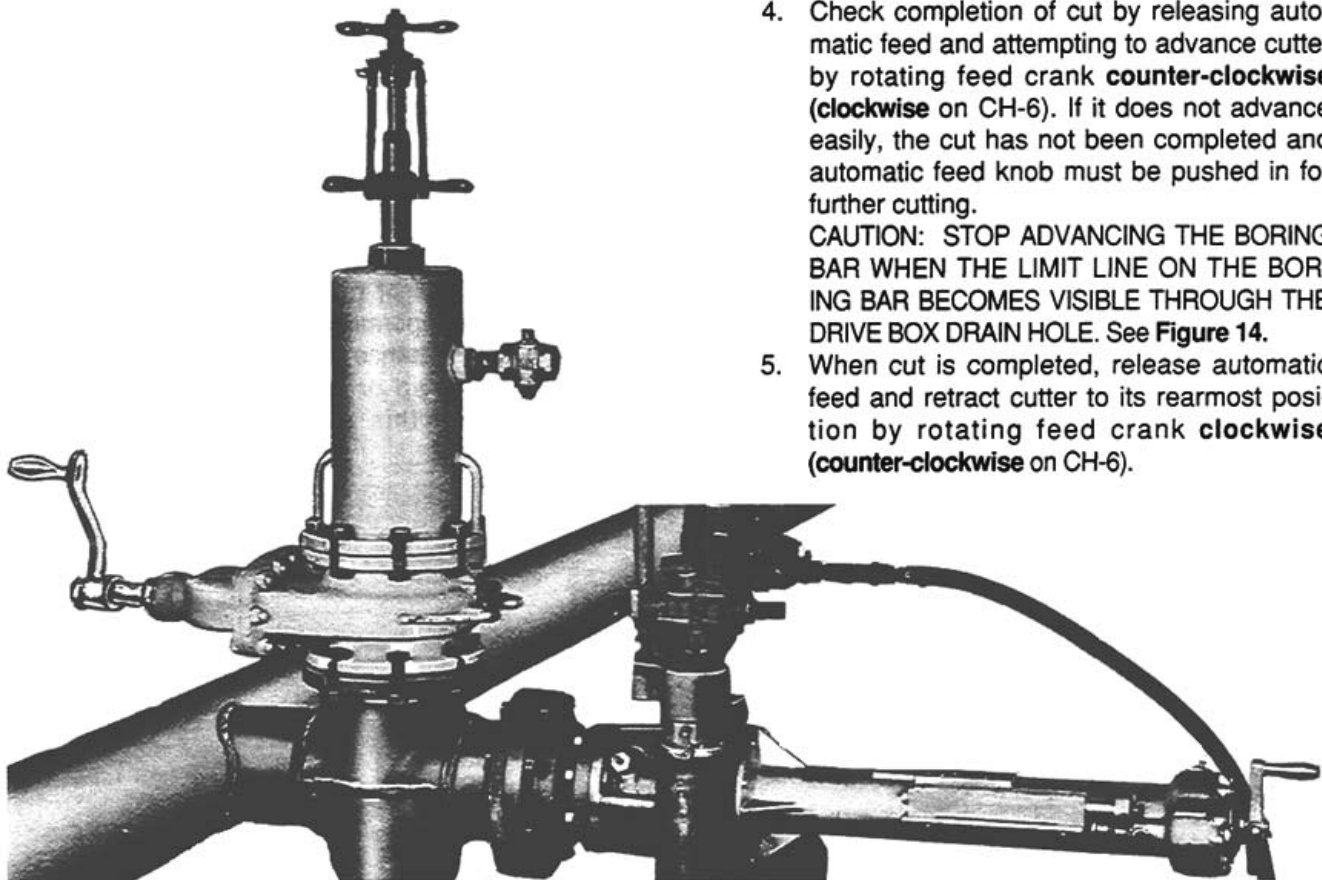

FIGURE 48
4. Hold inserting bar in this position by placing the yoke of the machine in the collar of the inserting bar and secure with pin. See Figure 48. Do not rotate inserting bar.